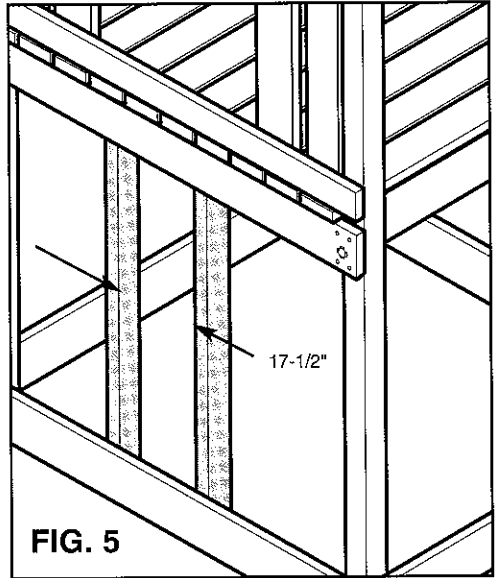

FIG. 5
2. Position two 2" x 4" x 45-1/2" boards to the unit as indicated in Fig. 5. **NOTE:** Center the boards in the opening created by removing the rails. The **INSIDE** distance between these boards should be approximately 17-1/2".